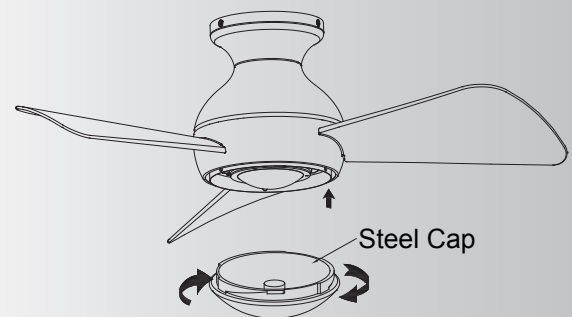

Fig. 14b
Step 6. Assemble the steel cap to the light kit by twisting in a clockwise direction. (Fig. 14b)